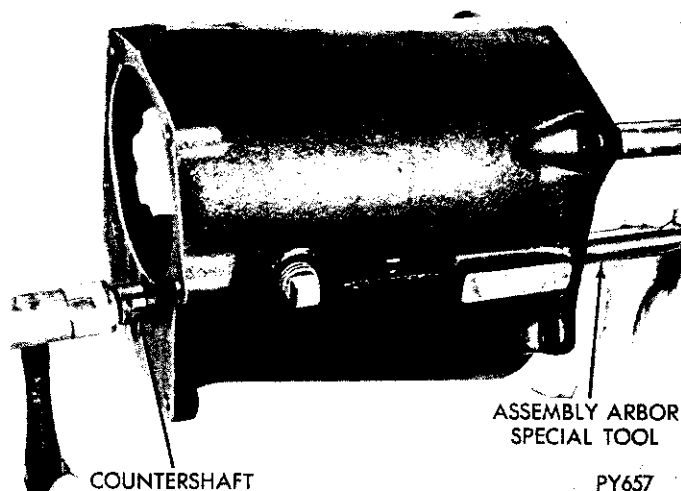

Fig. 26—Countershaft—Installation
(11) Now finish installation of countershaft gear assembly by positioning it and the thrust washers so that the countershaft can be tapped into position (Fig. 26). Be careful to keep the arbor in contact with the countershaft to avoid parts dropping out of position and blocking the installation. Install key in countershaft as installation is finished.